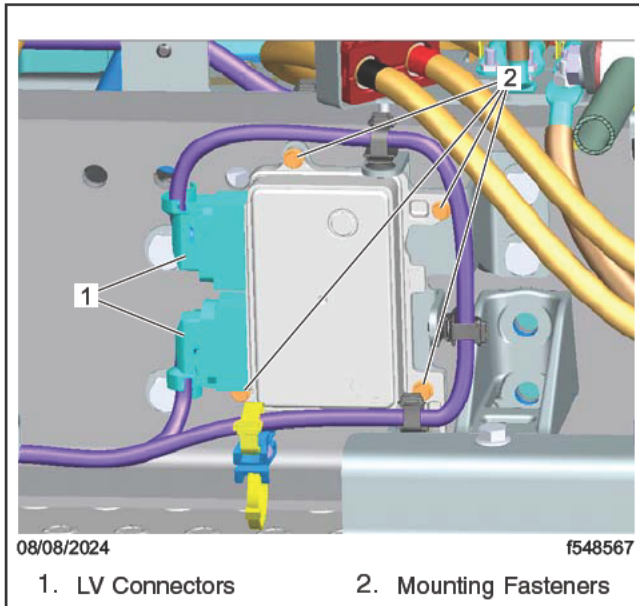

Fig. 2, ETCM
13. Disconnect the low voltage (LV) connections from the electronic transmission control module (ETCM), and remove the mounting fasteners from the ETCM. See Fig. 2.